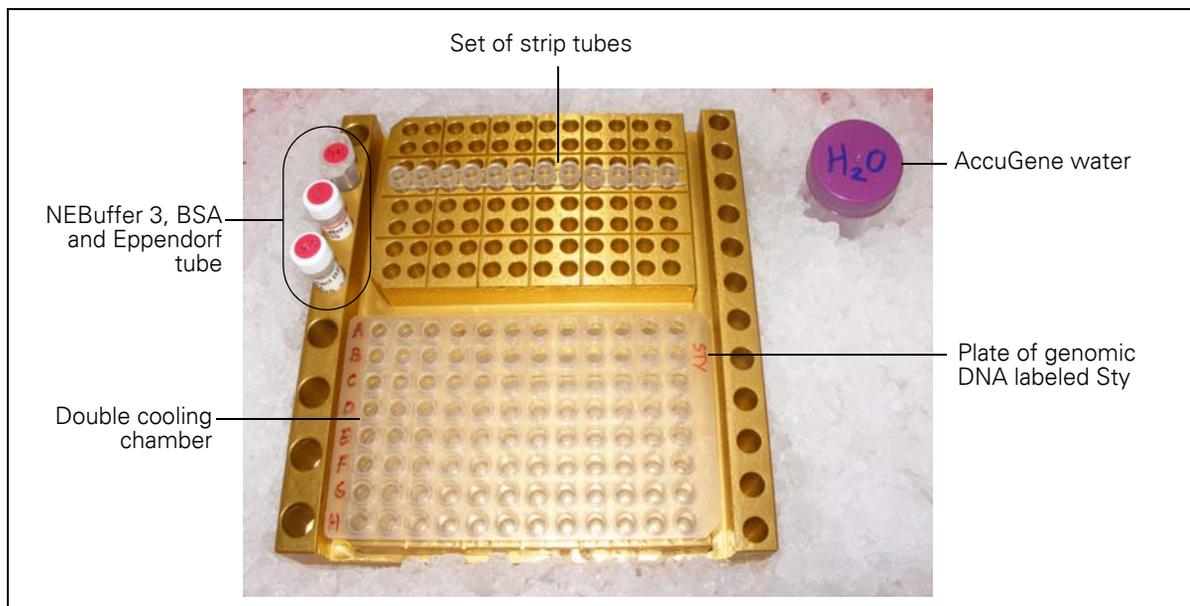

Figure 4.3 Work Area Prepared for Processing Samples with Sty Digest Mix (Sty Enzyme Not Pictured; Still at -20°C)
1. Place a double cooling chamber and a cooler on ice (Figure 4.3 on page 39).